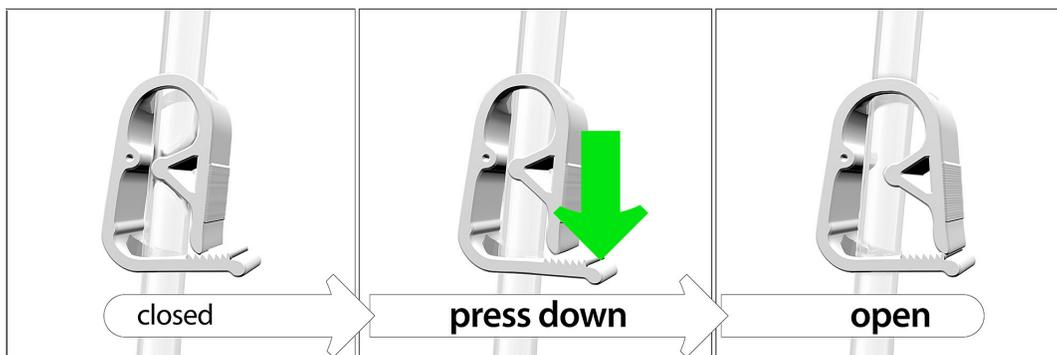

Figure 16
3. Verify the dressing application is correct, the tubing is connected and the tubing clamp is open (**Figure 16**).